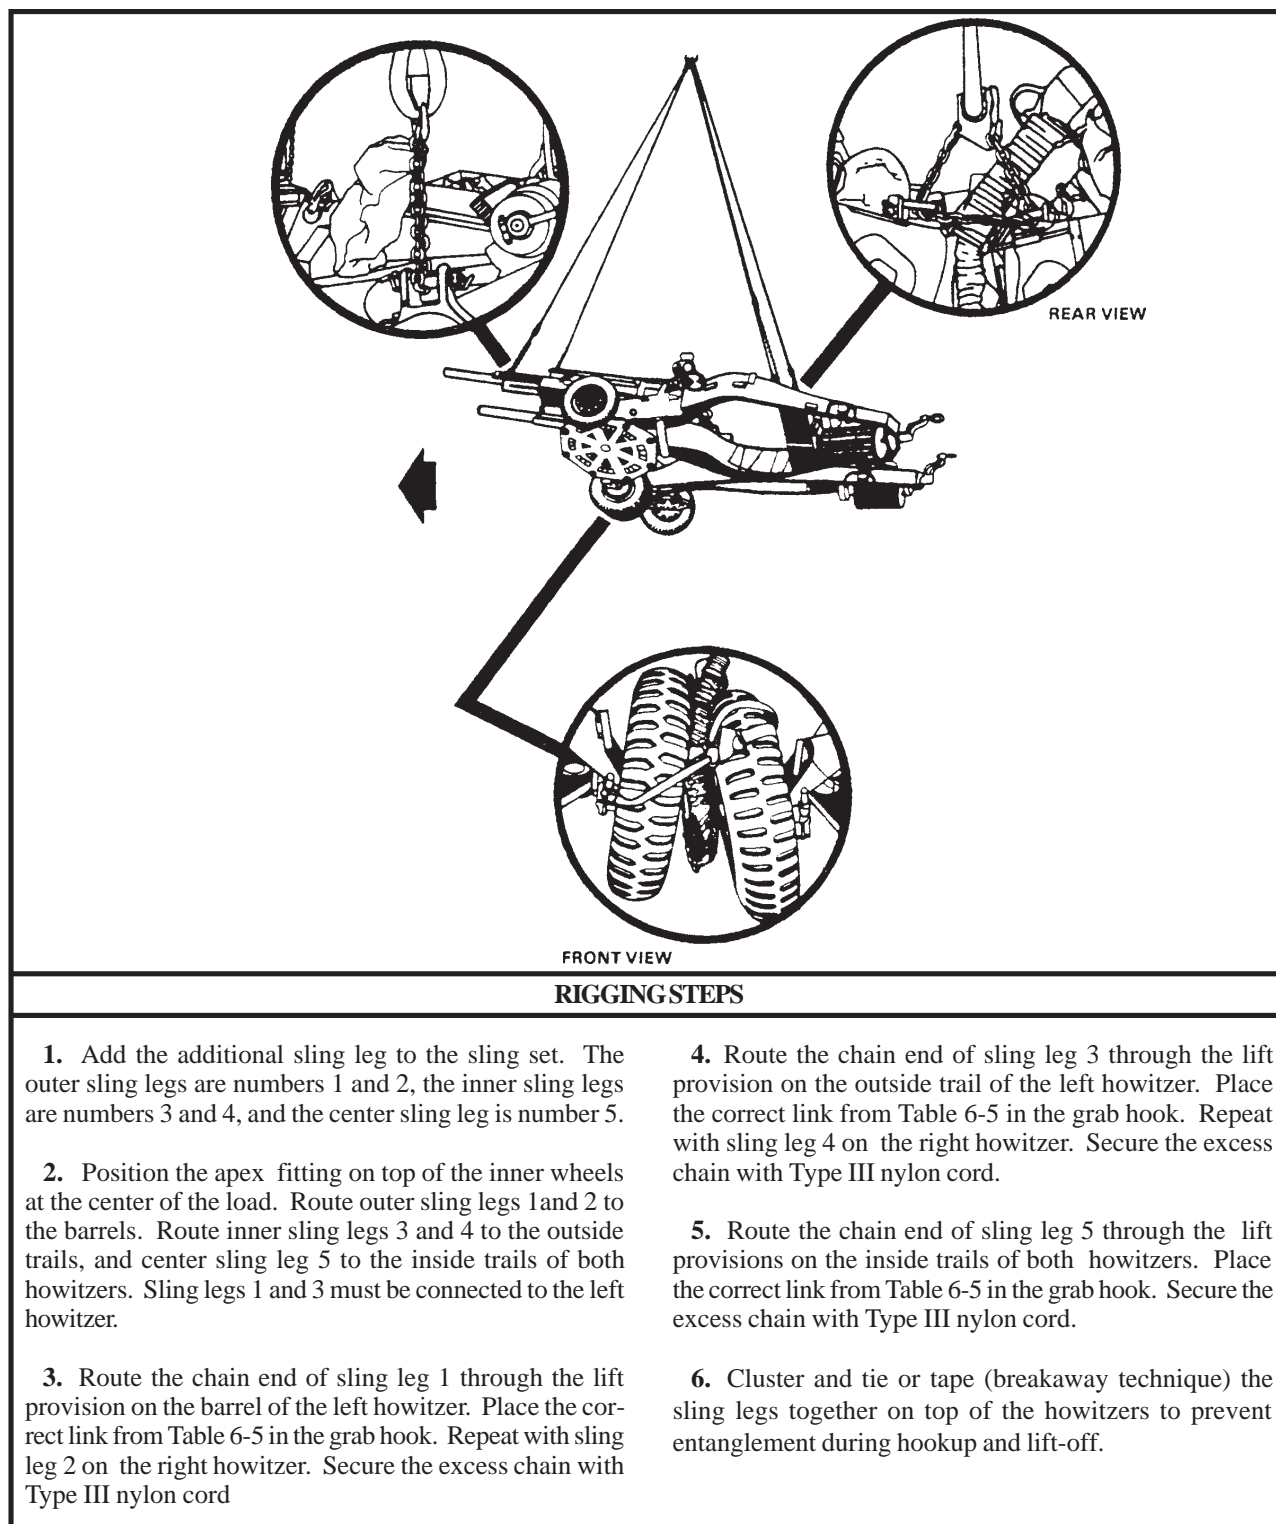

Figure 6-5. Two M102 105-MM Howitzers
(2) **Rigging.** Rig the load according to the steps in Figure 6-5.
(4) **Derigging.** Derigging is the reverse of the preparation and rigging procedures in steps d (1) and d (2).